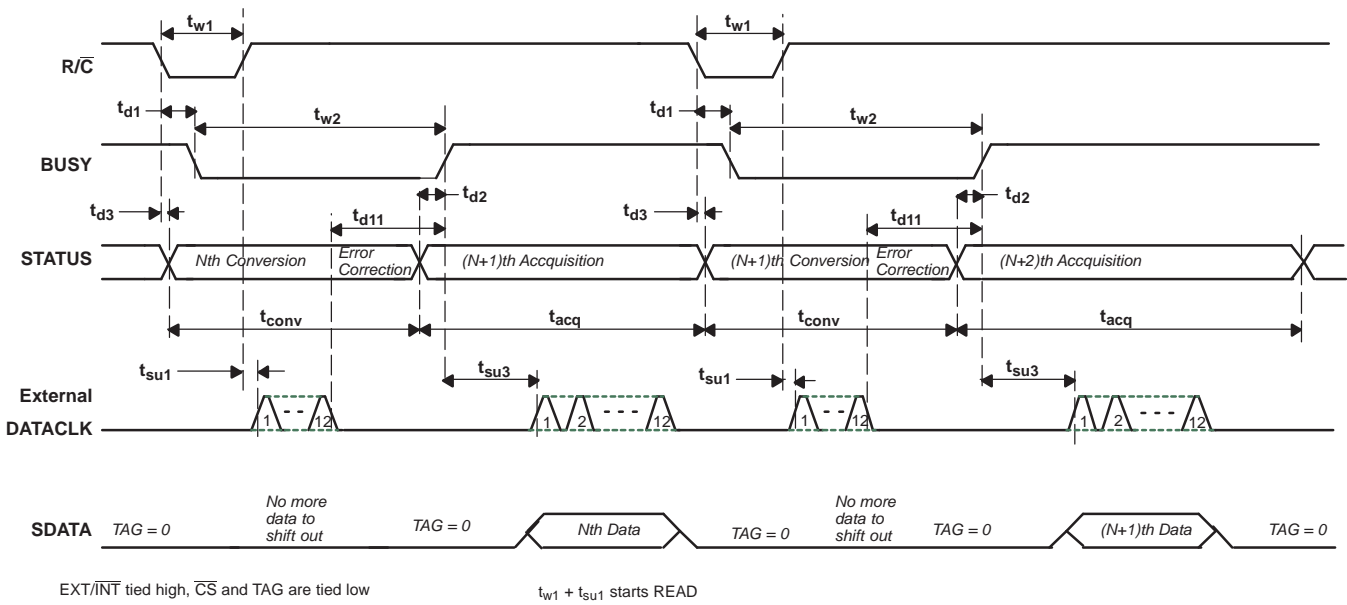
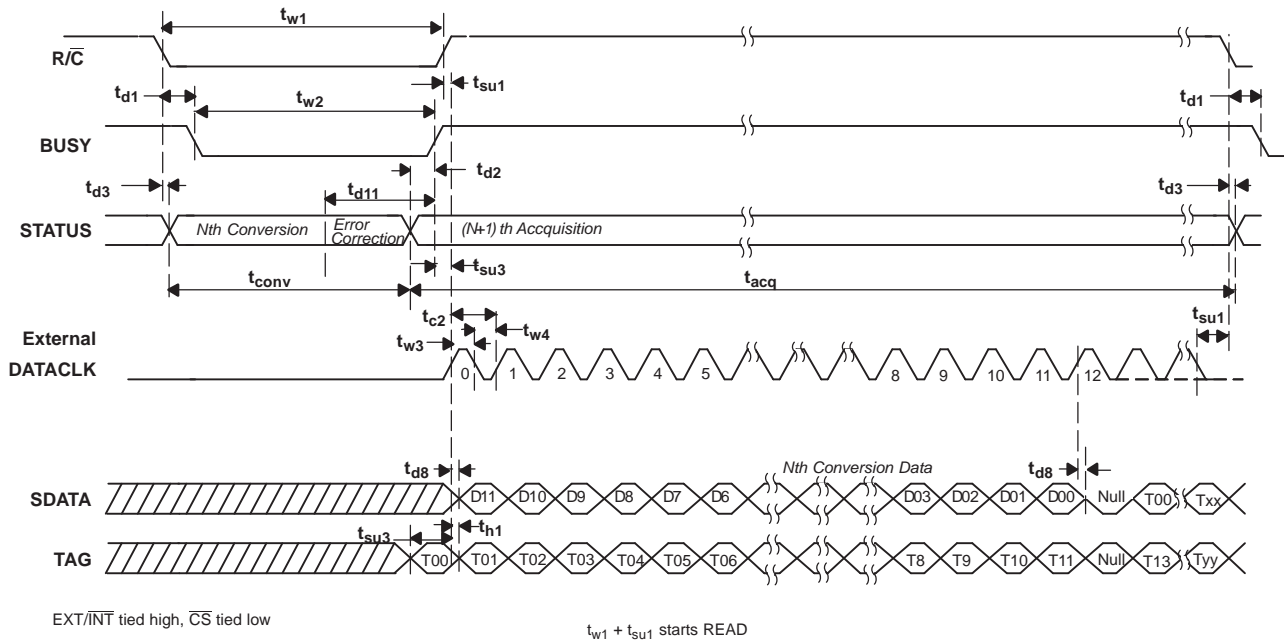
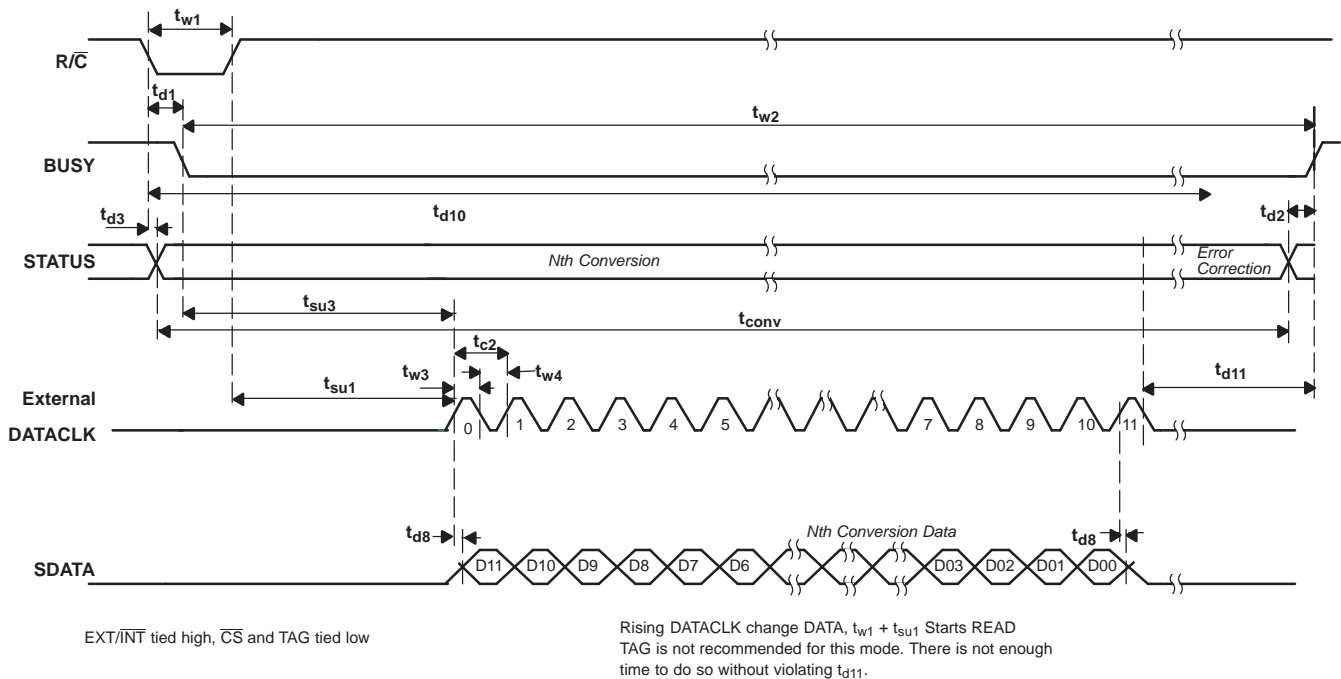

Figure 37. Basic Conversion Timing - External DATACLK
Figure 38. Read After Conversion (Discontinuous External DATACLK)
Figure 39. Read During Conversion (Discontinuous External DATACLK)
(1) See Figure 37, Figure 38, and Figure 39 for constraints on data valid from conversion $N-1$.
After conversion N is completed and the output registers have been updated, $\overline{\text{BUSY}}$ (pin 24) goes high. With $\overline{\text{CS}}$ low and $\text{R}/\overline{\text{C}}$ high, valid data from conversion N is output on SDATA (pin 19) synchronized to the external data clock input on DATACLK (pin 18). The MSB is valid on the first falling edge and the second rising edge of the external data clock. The LSB is valid on the 12th falling edge and 13th rising edge of the data clock. TAG (pin 20) inputs a bit of data for every external clock pulse. The first bit input on TAG is valid on SDATA on the 13th falling edge and the 14th rising edge of DATACLK ; the second input bit is valid on the 14th falling edge and the 15th rising edge, etc. With a continuous data clock, TAG data is output on SDATA until the internal output registers are updated with the results from the next conversion. Refer to Table 6 and Figure 38.
After conversion N has been initiated, valid data from conversion $N-1$ can be read and is valid up to $12\ \mu\text{s}$ after the start of conversion N . Do not attempt to clock out data from $12\ \mu\text{s}$ after the start of conversion N until BUSY (pin 24) rises; this results in data loss. NOTE: For the best possible performance when using an external data clock, data should not be clocked out during a conversion. The switching noise of the asynchronous data clock can cause digital feedthrough degrading the converter's performance. Refer to Table 6 and Figure 39.